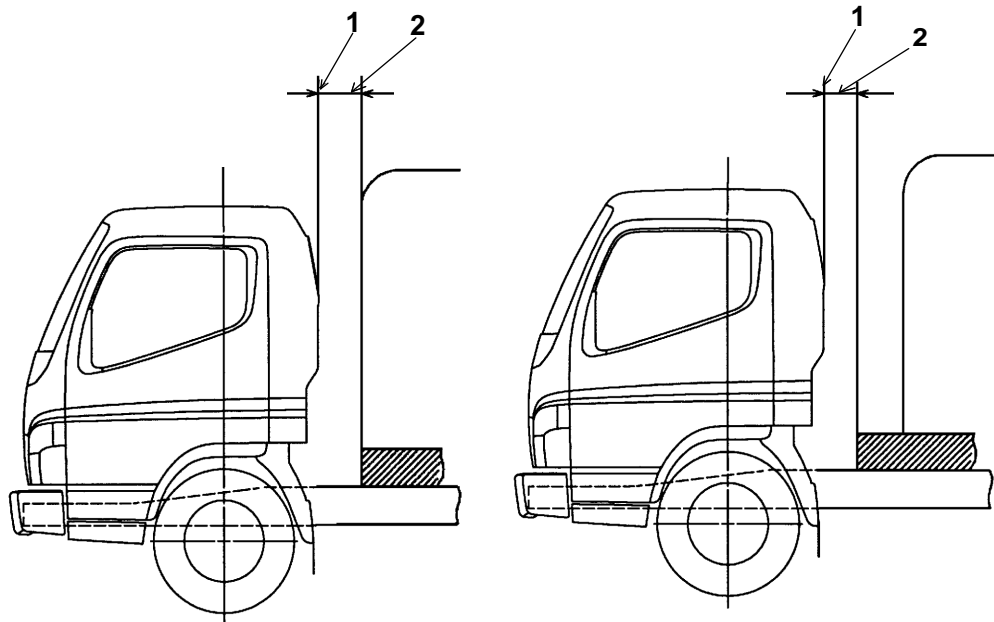

Fig. 1
- Install the mounting frame as shown in Fig. 1 to gradually reduce the stress concentrations in the front end. The front end of the mounting frame should be installed as close to the rear of the cab as possible. Extend the mounting frame as far toward the cab as possible when the rear body is installed far from the cab.